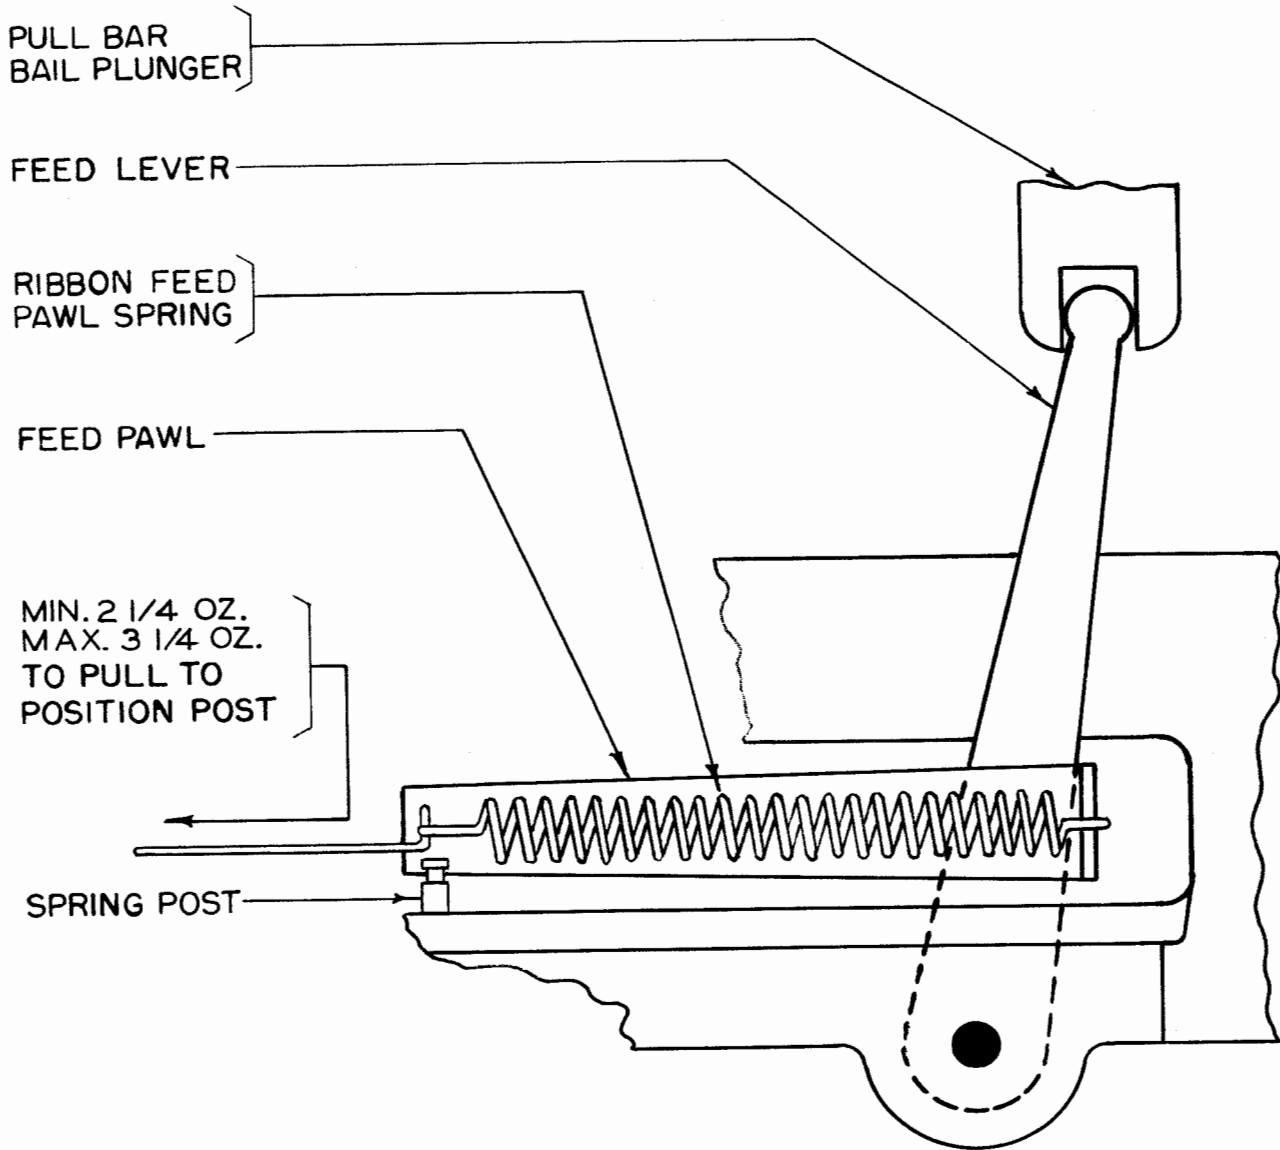

Figure 3
2.04 Ribbon-feed-pawl Spring: The ribbon-feed-pawl spring should have a tension of minimum 2-1/4 ounces, maximum 3-1/4 ounces when the pullbar bail is in its extreme rear position and the type carriage is held in its normal position. See Figure 3.